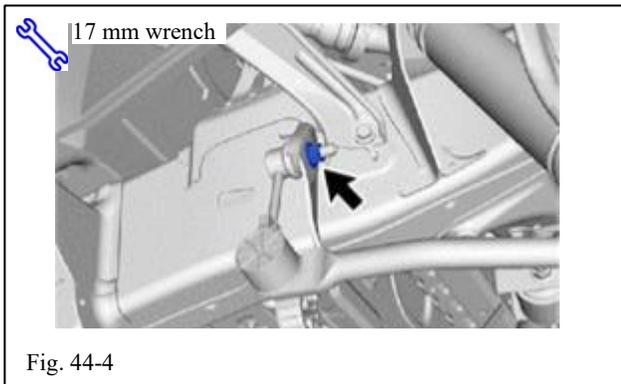

Fig. 44-4
- (h) Tighten the shock rod nut at the frame (Fig. 44-4).